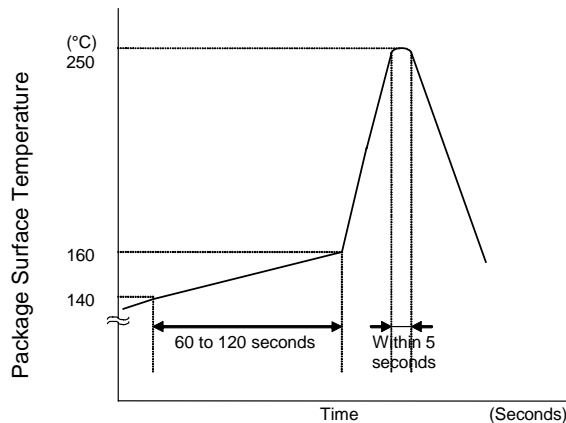

Figure 3.5 Example of Surface-Mount Package Temperature Profile
- (1) Apply preheating for 60 to 120 seconds at a temperature of 150°C.
- (2) For lead insertion-type packages, mount the device within 10 seconds of solder flow with a maximum temperature of 260°C at the stopper or at a location more than 1.5mm from the body.
- (3) For surface-mount packages, mount the device within 5 seconds at a temperature of 250°C or less in order to avoid thermal stress.
- (4) Figure 3.5 shows an example of the temperature profile of solder flow for a surface-mount package.